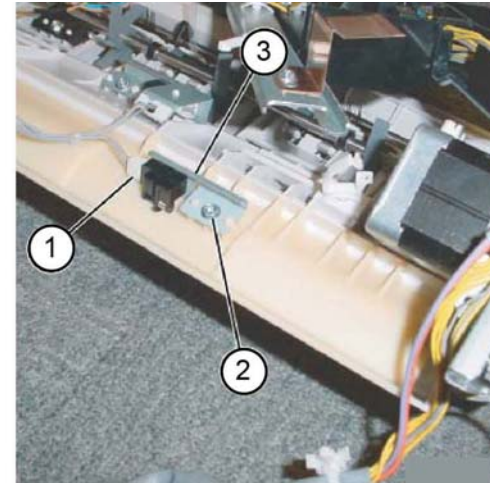

Figure 3 Finisher entrance sensor assembly removal
6. Remove the finisher entrance sensor assembly, **Figure 3**:
- a. Disconnect the connector (1).
- b. Remove the self-tapping screw (2).
- c. Remove the finisher entrance sensor assembly (3).